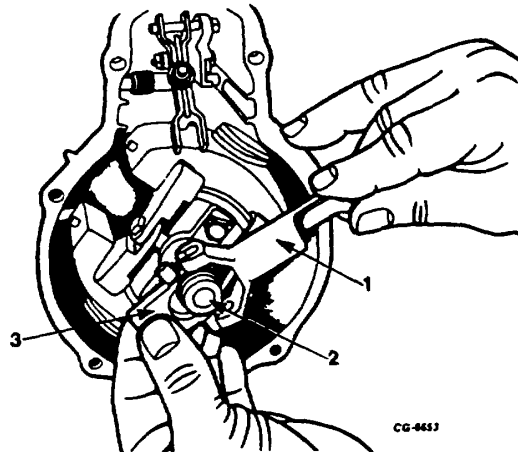

Figure 9. Removing Floating Lever and Slider
9. Pull top of floating lever back and down to remove floating lever and slider (Figure 9) from guide pin.